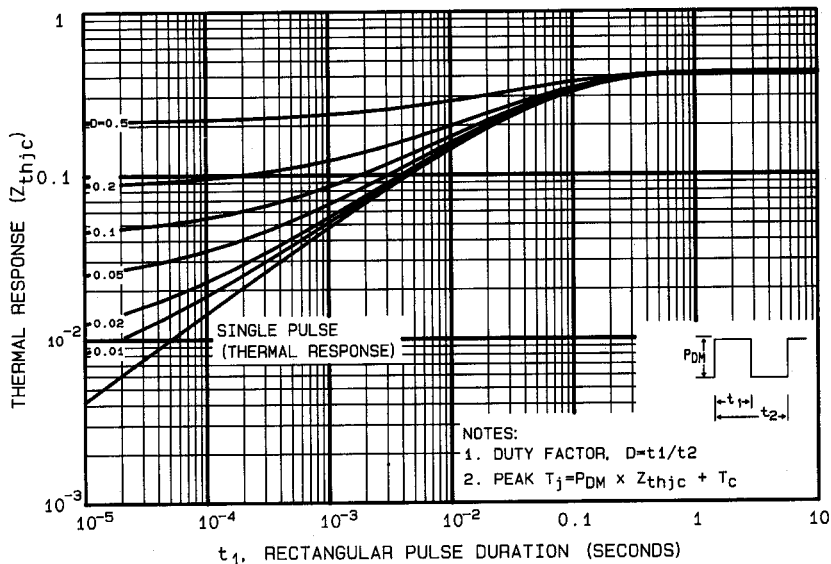

Fig. 9 — Maximum Effective Transient Thermal Impedance, Junction-to-Case Vs. Pulse Duration
① Repetitive Rating: Pulse width limited by maximum junction temperature (see figure 9)